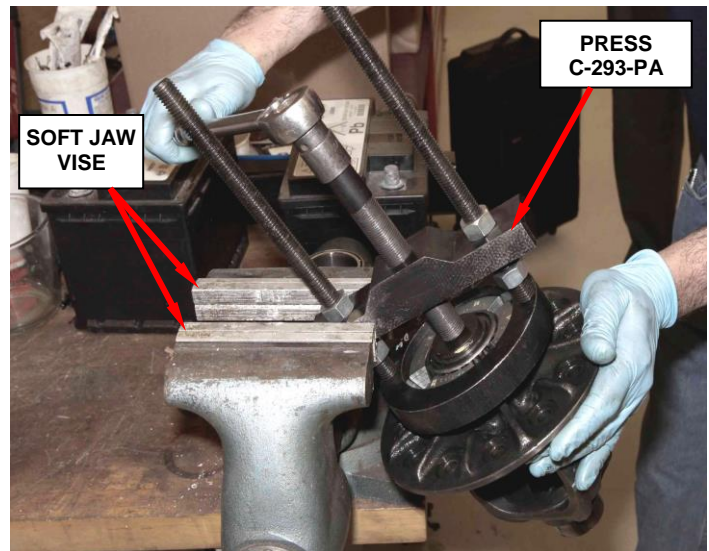

Figure 31 – Differential Side Bearing Removal
- If the pinion turning torque is too low, install the Position Holder 6719A and tighten the pinion nut in small increments. Then remove the Position Holder, rotate the flange several times and recheck the pinion turning torque. Repeat, if necessary, in small increments until the correct pinion turning torque is achieved (Figure 31).
31. Inspect, and replace if required, the differential side bearings. Use Puller/Press C-293-PA, Block Set/Puller C-293-47 and Adapter/Bearing/Gear C-293-3 (Figure 31).